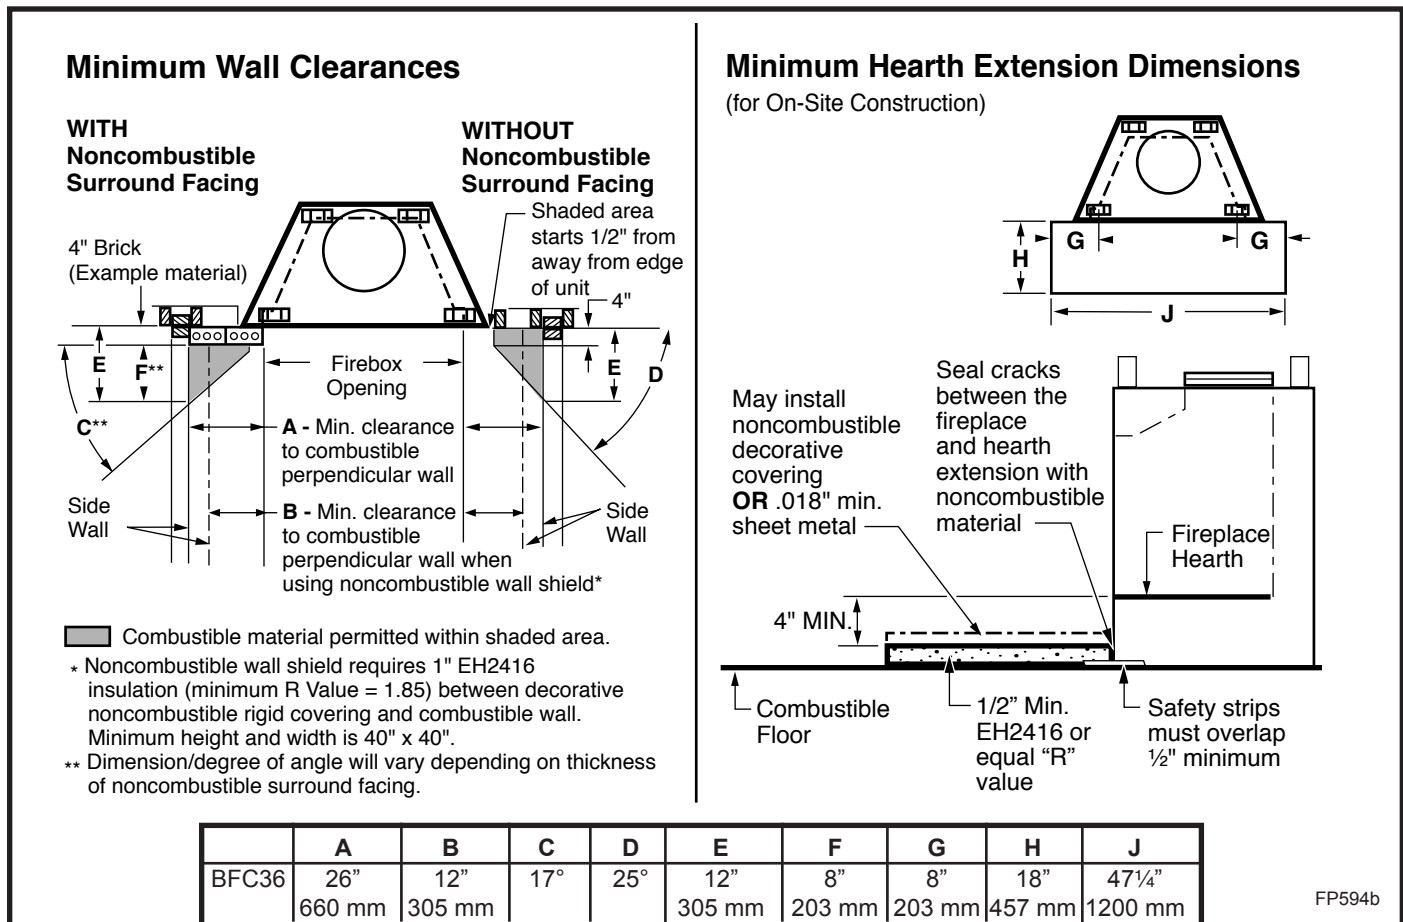

Fig. 20 Combustible side wall protection and hearth extension dimensions.
Finish the wall with material of your choice. **Do not install a combustible mantel shelf less than 12" (305 mm) above the grille opening. Do not install a mantel face plate less than 6" (159 mm) from top of grille opening.** (Fig. 20) If a combustible material is used below a flat mantel shelf, consult your local building codes for minimum clearance from top of fireplace opening to bottom of mantel shelf.
A hearth extension is required to protect a combustible floor in front of the fireplace. Refer to Figure 20 for minimum dimensions and mounting detail.
The hearth extension described in Figure 20 must be a durable non-combustible material with a minimum (total) Rt value of 1.09; refer to Figure 21 for examples. The overall height (above a combustible floor), depth and width must be as indicated, with the extension centered to the fireplace opening.
The top of insulation must be covered with a non-combustible decorative covering **or** a piece of .018" minimum sheet metal, to protect hearth extension material. (Fig. 20)
Secure the hearth extension to the floor to prevent shifting, using trim molding or other similar means at three (3) outer edges. Seal crack between the fireplace hearth and hearth extension with a non-combustible material. (Figs. 20 and 22)